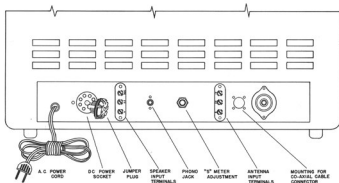

Fig. 2. Rear View of Cabinet
**NOTE:** The receiver will not operate from an AC source unless the JUMPER PLUG is inserted in the DC POWER SOCKET. See Fig. 2.
**REMOTE STANDBY/RECEIVE SWITCH CONNECTION** - The receiver may be disabled remotely by connecting a remote spst switch between pins 1 and 4 of the JUMPER PLUG (see Fig. 2). To operate the receiver remotely, set the STANDBY/RECEIVE switch, located on the front panel of the receiver, to the STANDBY position. The receiver can then be placed in RECEIVE or STANDBY operation with the remote switch.
**TRANSMITTER CONTROL SWITCH** - One section of the dpst STANDBY/RECEIVE switch is available for transmitter relay control. This section of the switch connects to pins 2 and 5 of the DC POWER SOCKET (see Fig. 2) and is in the open position with the STANDBY/RECEIVE switch at STANDBY.